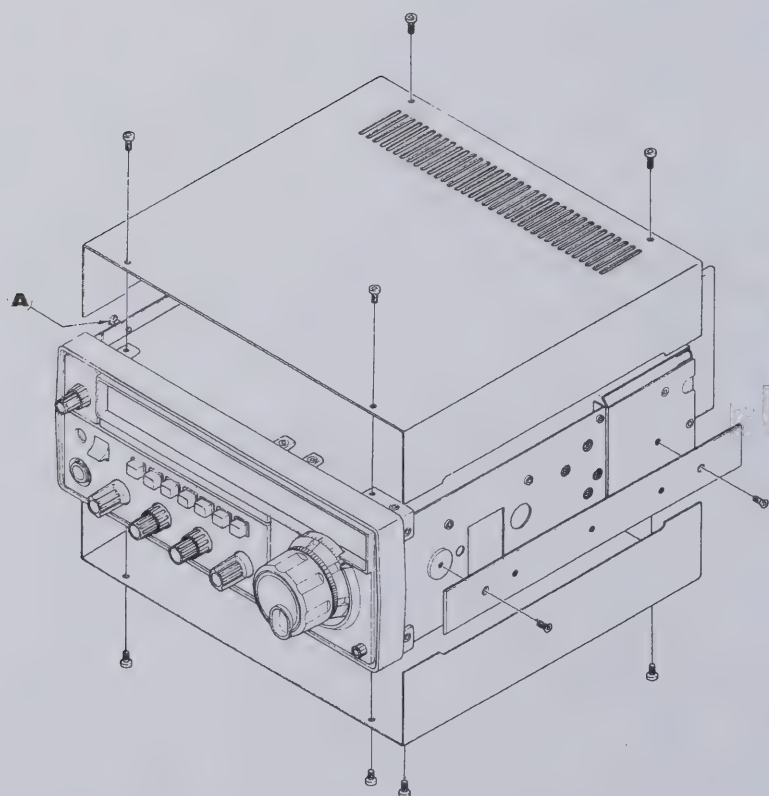

Fig. 3-1
- (1) Refer to Figure 3-1, and remove the top cover of the transceiver.